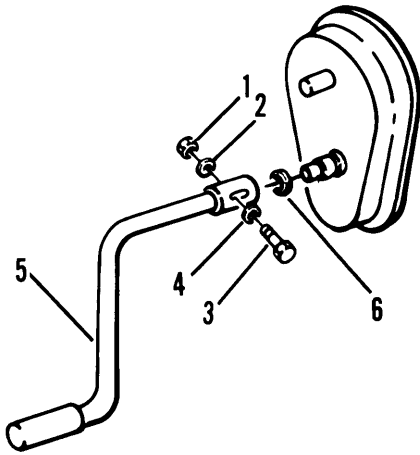

Figure 4-53. Crank
- (1) Block semitrailer on jack stands.
- (2) Block wheels with chock blocks to prevent movement of semitrailer.
- (3) Remove float pads from brackets for easier access to landing legs.
- (4) Remove nut (1, fig. 4-53), washer (2), bolt (3) and washer (4).
- (1) Install seal (6, fig. 4-53) and crank (5).
- (2) Install washer (4), bolt (3), washer (2) and nut (1).
- (3) Install float pad in bracket.
- (4) Check operation of landing legs.
- (5) Make sure landing legs are fully lowered and remove jack stands.